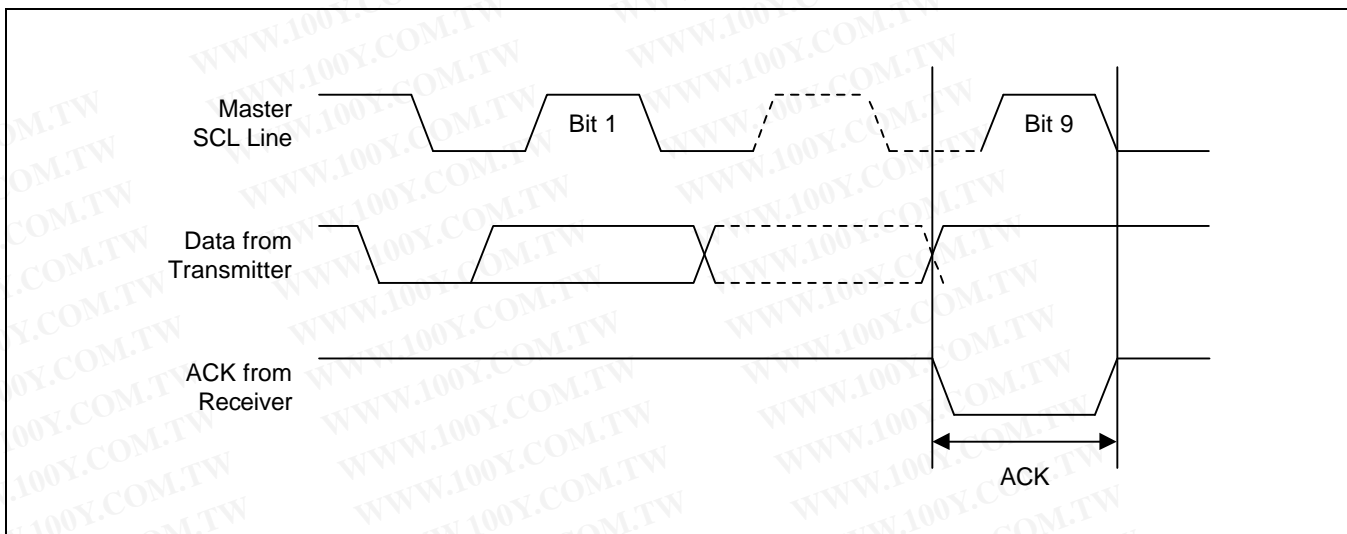

Figure 5-8. Acknowledge Response from Receiver
- **ACK (Acknowledge):** An ACK signal indicates that a data transfer is completed successfully. The transmitter (the master or the slave) releases the bus after transmitting eight bits. During the 9th clock, which the master generates, the receiver pulls the SDA line low to acknowledge that it has successfully received the eight bits of data (see Figure 5-8). But the slave does not send an ACK if an internal write cycle is still in progress.